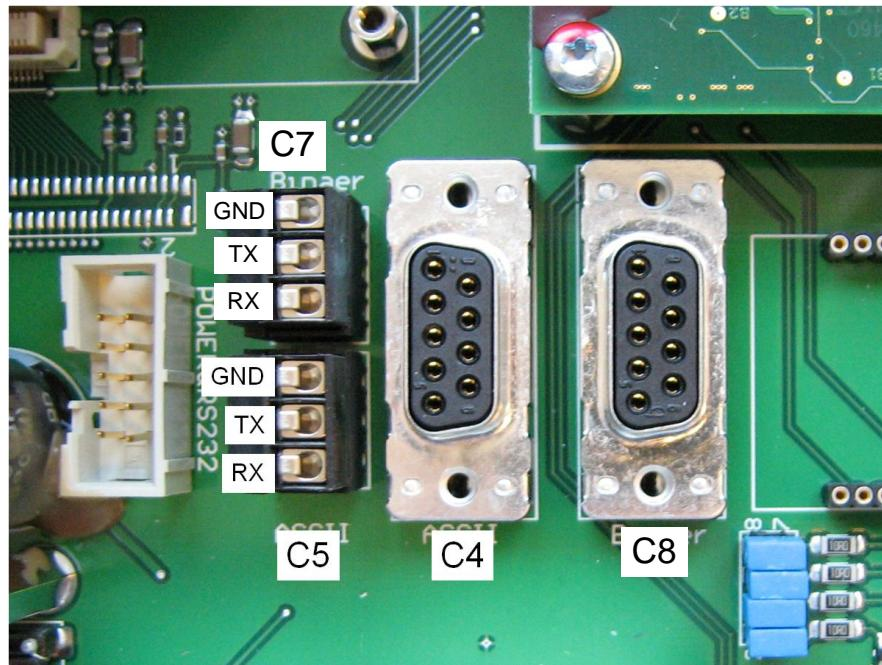

Figure 60 Internal serial service port C4/C5 and data port C8/C7 (RS232)
Optional the RS232 connection can be established via the terminal block (C5). The pin assignment is shown in Figure 60.
The data port with binary protocol output for units without TCP/IP interface is available on D-sub socket (C8) please use a standard RS232 cable (1:1) with a maximum length of 2 meters or optional the RS232 connection can be established via the terminal block (C7). The pin assignment is shown in Figure 60.
- 9) Check the data port is working. Open the program RealTerm. If connected to a LPR unit with TCP/IP interface open the data port 3046: Enter 192.168.1.99:3046. The display in RealTerm should be set to Hex[space] to “see” binary data. If you use a LPR unit with RS232 interface connect the serial cable to the data port C8, see Figure 60. An example of the binary protocol output at the data port is shown below.